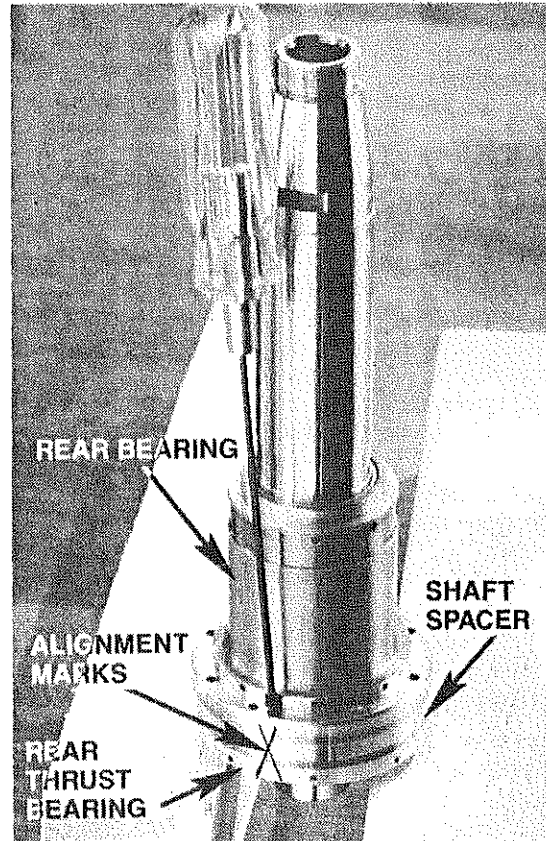

FIG. 22
- Place shaft through rear bearing; and, shaft spacer and rear thrust bearing over shaft end. Place assembly on support blocks as shown on Fig. 22. Note the alignment marks must be aligned as shown.
- e. Improper assembly (failure to match alignment marks – Figures 22, 26, 29, 32 and 35).